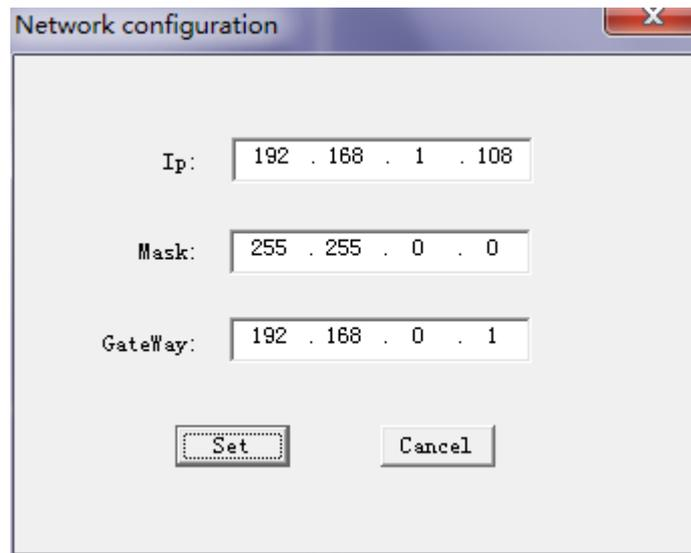

Figure 2- 3
Step 2. Click config. See Figure 2- 3.